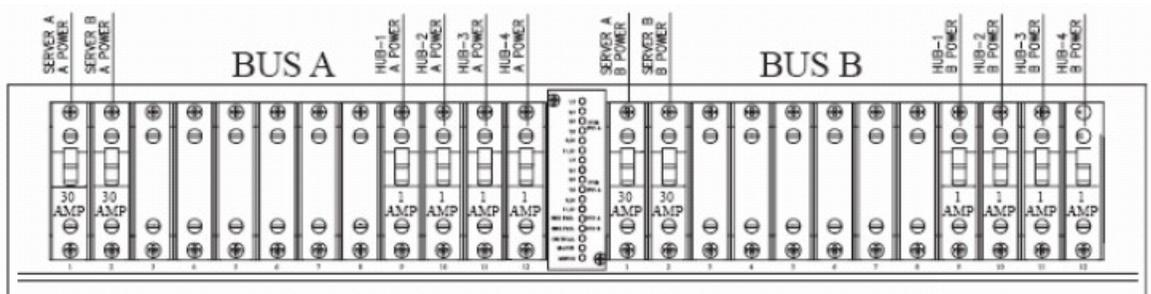

Figure 5: Breaker Panel Setting
2. Look at the breaker panel assignments in Figure 5: Breaker Panel Setting. For each breaker assignment, and verify that the corresponding LED in the PWR BUS A group and the PWR BUS B group is illuminated Green.